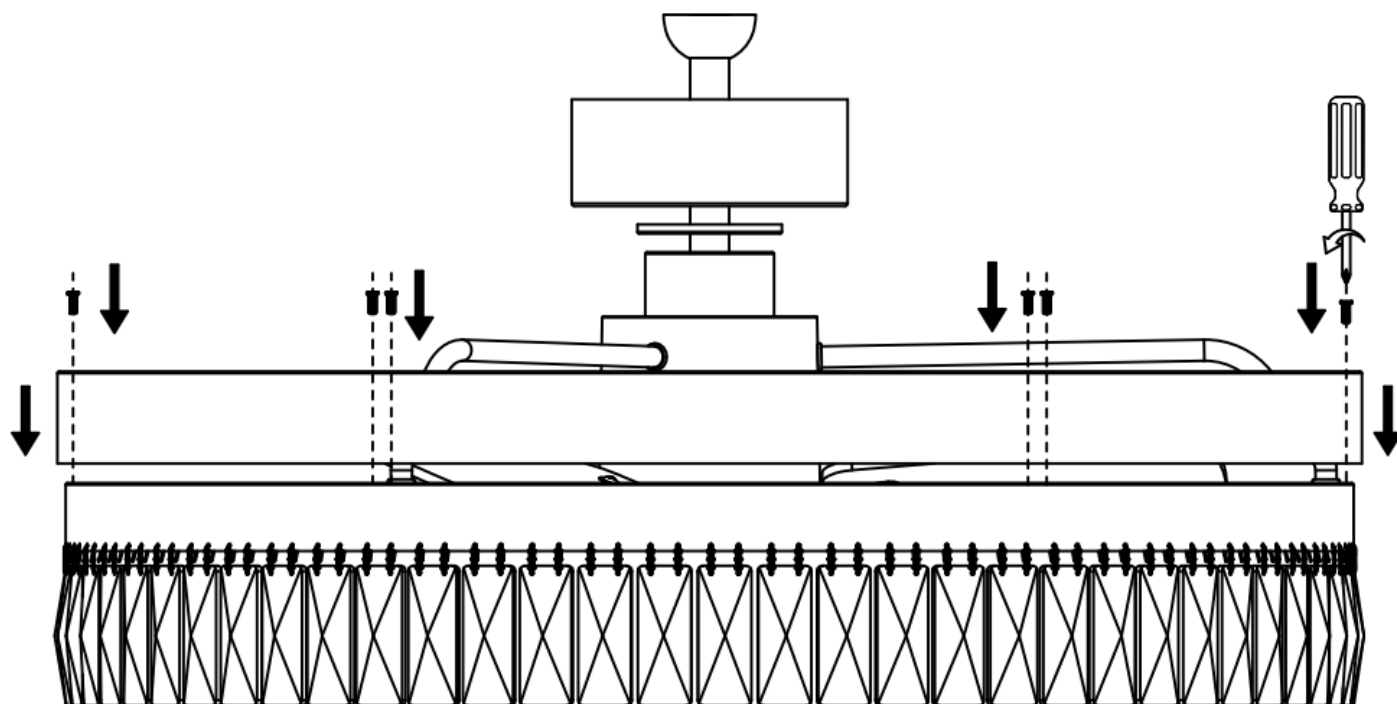

Fig. 8
4. Install the lamp housing cover back to the fan assembly and secure by tightening the screws. (Fig.8)